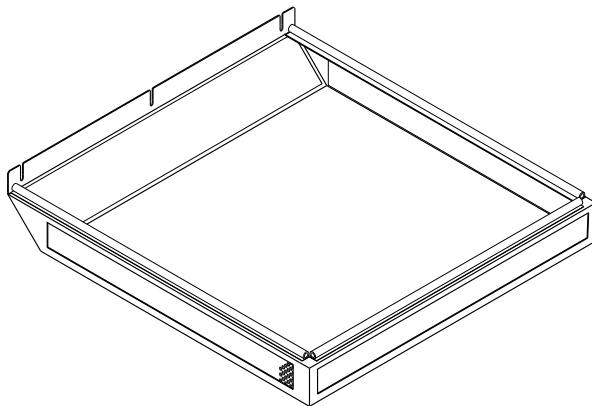

Figure 10-2. 3746-900 Front Ground Plate
Step 9. ____ Install plate PN 58G5335 on the front bottom of the 3746-900 (see Figure 10-2).